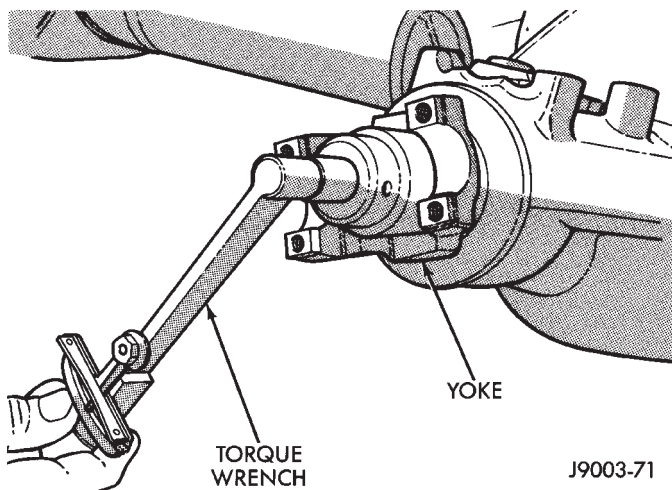

Fig. 27 Bearing Preload Torque Measurement
(23) Measure pinion bearing preload torque by rotating pinion shaft with a Newton-meter or an inch-pound torque wrench. The correct bearing preload torque is 1 to 2 N·m (10 to 20 in. lbs.). This torque value is with replacement bearings and pinion nut tightened with a minimum of 285 N·m (210 ft. lbs.) torque (Fig. 27).